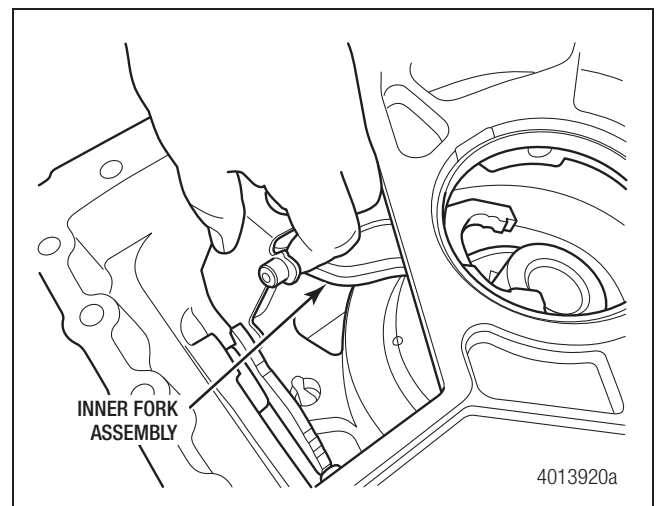

Figure 4.23
26. Rotate and remove the inner shift fork assembly from the housing. Figure 4.23.